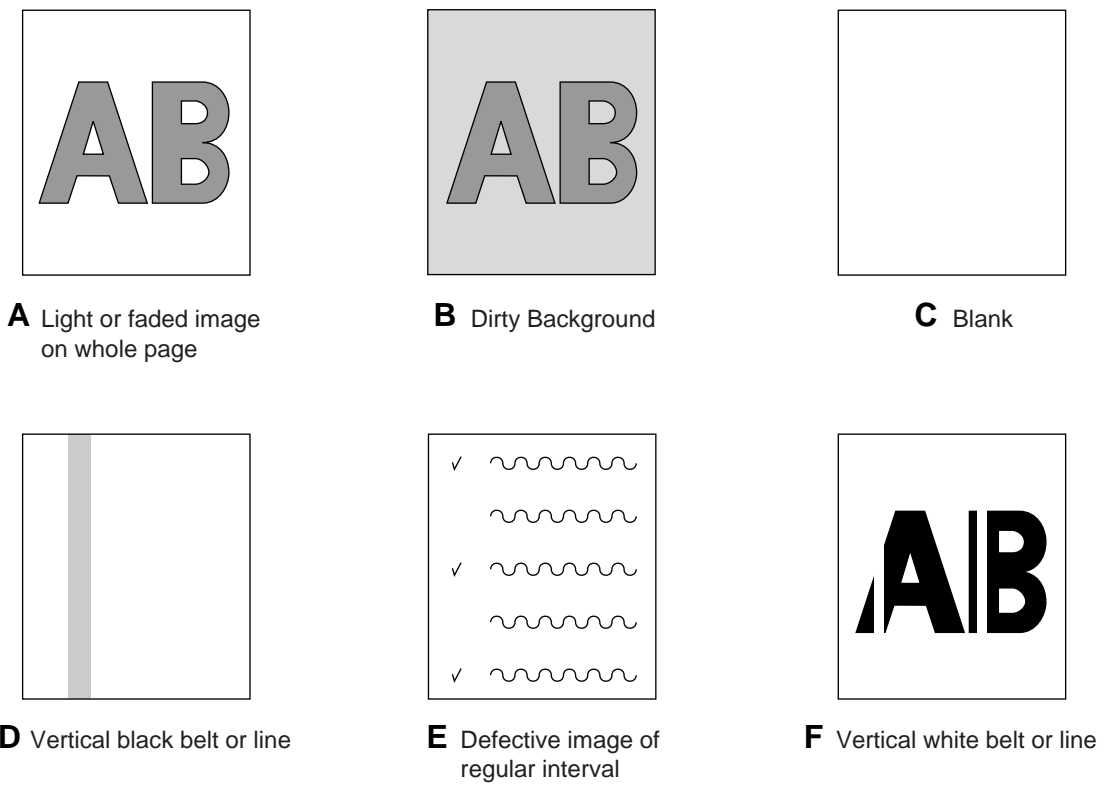

Figure 8.2
## 8.5.3.(1) Color is totally pale (Fig.8.2 A )
## 8.5.3.(2) Background is dirty (Fig.8.2 B )
## 8.5.3.(3) Blank Print (Fig.8.2 C )
## (4-1) Thin vertical lines (with color) (See Fig.8.2 D )
## (4-2) Thin vertical lines (without color) (See Fig.8.2 F )
## 8.5.3.(5) Cyclic Print Trouble (Refer to Fig.8.2 E )